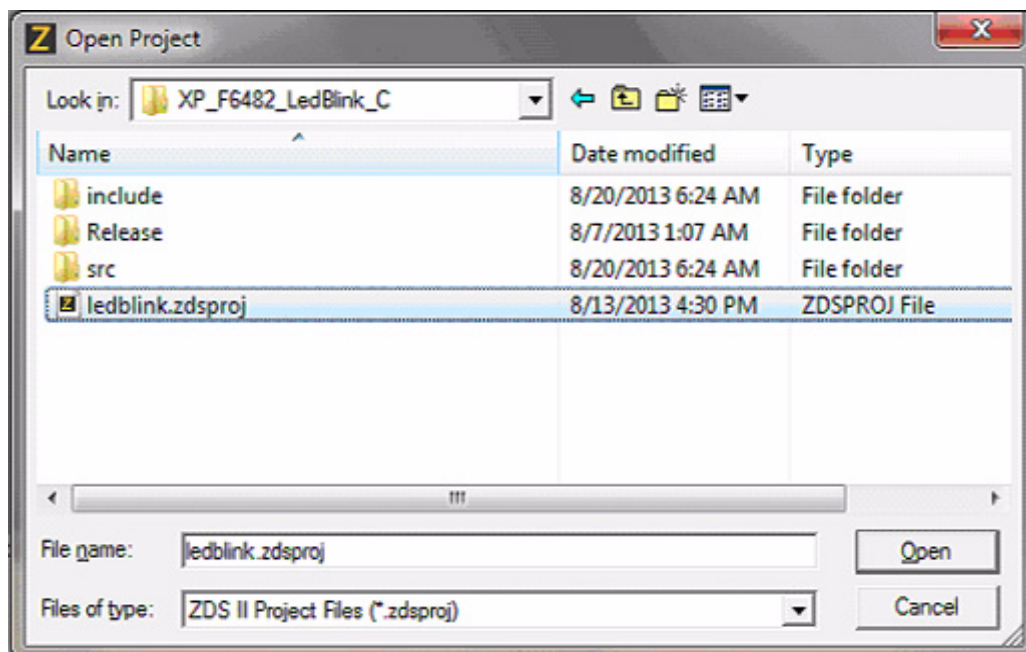

Figure 7. Select the ledblink.zdsproj Project
3. Select the `ledblink.zdsproj` project from within the `XP_F6482_ledBlink_C` folder and click **Open**, as shown in Figure 7. A list of source files will appear in the workspace panel.